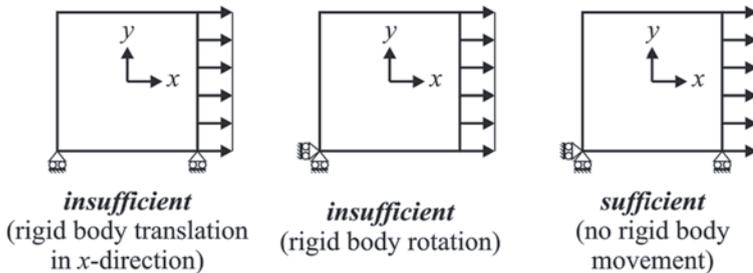

Fig. 5.7 Instability due to lack of constraints (*left* and *middle*); stable configuration
1. Instability in the structure due to lack of constraints in static structural analyses. This leads to rigid-body translations and rotations, which makes the stiffness matrix singular. As an example of this phenomenon, Fig. 5.7 shows three distinct constraint configurations applied on the same 2-D square structure subjected to a distributed tensile load in the x -direction. The first configuration involves two constraints, both suppressing displacements in the y -direction, along the bottom surface of the structure. Because there are no constraints suppressing displacements in the x -direction, the structure is free to move in the x -direction under the applied load, thus leading to a singular stiffness matrix. In the second configuration, displacements in both the x - and y -directions are suppressed at the